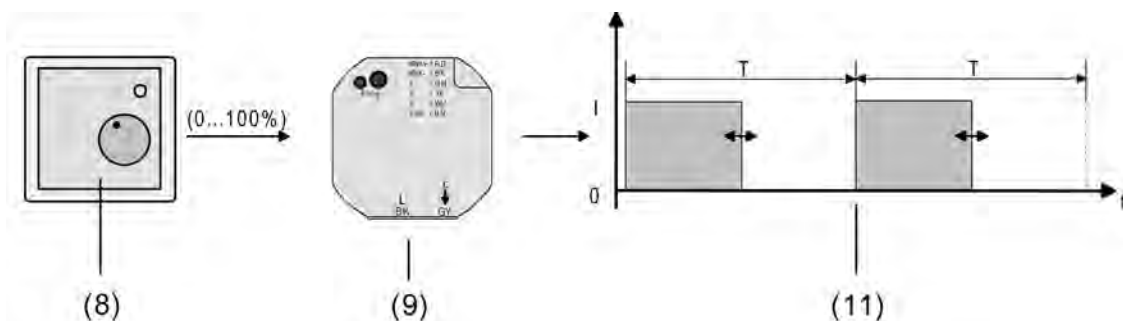

Figure 18: Command value principle for constant command value
- (8) Room temperature controller (command value "1-bit")
- (9) Heating actuator
- (10) Switching output signal for valve drives
In normal operation, the value telegram received via the 1-byte "Command value" object is converted by the device into an equivalent pulse width modulated switching signal at the valve outputs (figure 18). Taking the cycle time (T) settable in the device into account, the average output signal resulting from this modulation is a measure of the centred valve position of the control valve and thus a reference for the set room temperature (see "Pulse width modulation for constant command values and constant valve setpoint positions").